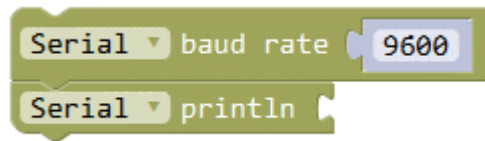

Figure 2-6
- 1) Under the serial port label  Drag the block to "Serial Baud Rate 9600", as shown in Figure 2-6